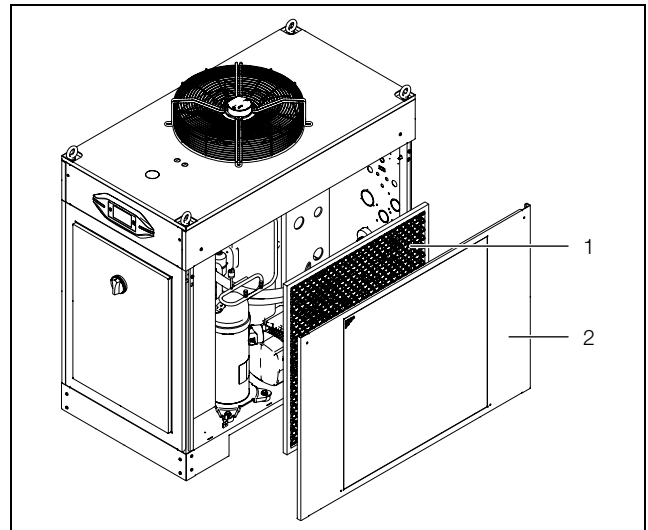

Fig. 20: Remove the side panel
- Dismantle the side panel (fig. 20, item 2) of the chiller, and place it somewhere safe.
- Insert the metal filter (fig. 20, item 1) inside the side panel into the designated frame and secure it.